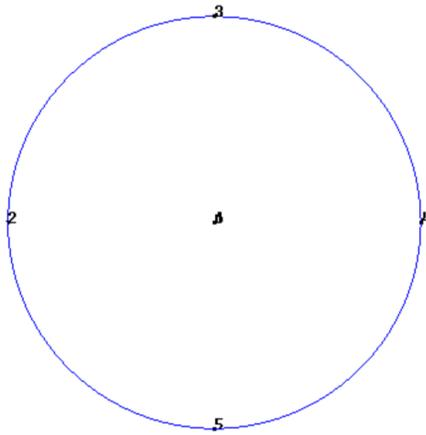

Figure 4: Completed two arcs
3. Click on point 4 to complete the arc. To create a second arc, click successively on points 4, 5 and 6. Hit **. Esc.** to exit the arc creation tool (Figure 4).